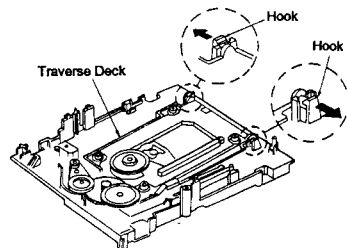

Figure 23
- (1) After removing the Tray, unhook two Hooks securing the Traverse Deck as shown in Figure 23.